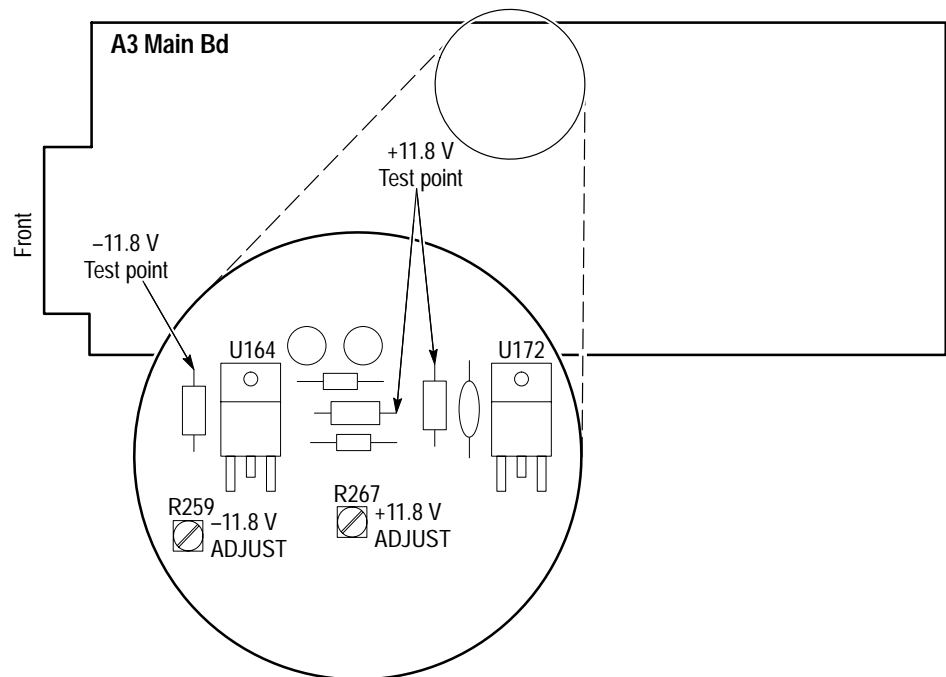

Figure 5-9: Test points and adjustment locations for the ± 11.8 V supplies
- a. Connect the voltmeter ground lead to one of the rear-panel ground lugs and the active lead to the -11.8 V test point. See Figure 5-9.
- c. Connect the voltmeter active lead to the $+11.8$ V test point. See Figure 5-9.